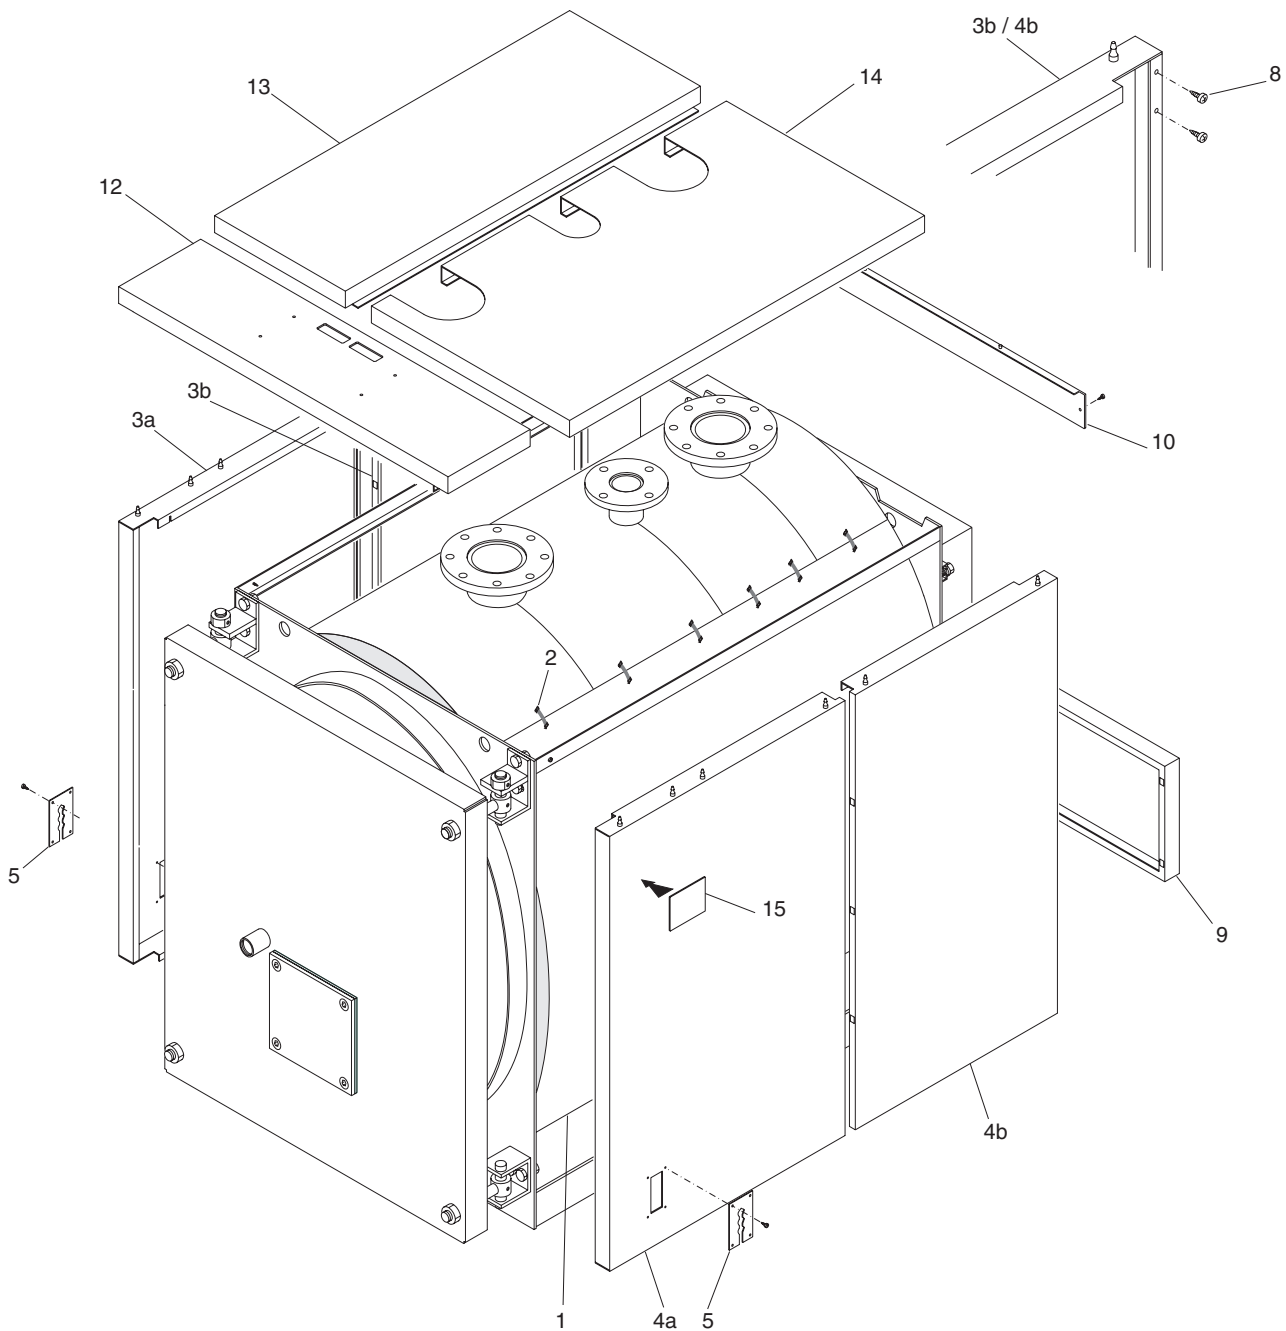

fig. 28
N.B.: For model **SKD 630** (ref. fig. 26) and for models between **SKD 760** and **SKD 2200** (ref. fig. 28 e 29), the casing and insulation are contained in 3 boxes marked as:
Assembly sequence (Ref. fig. 28)